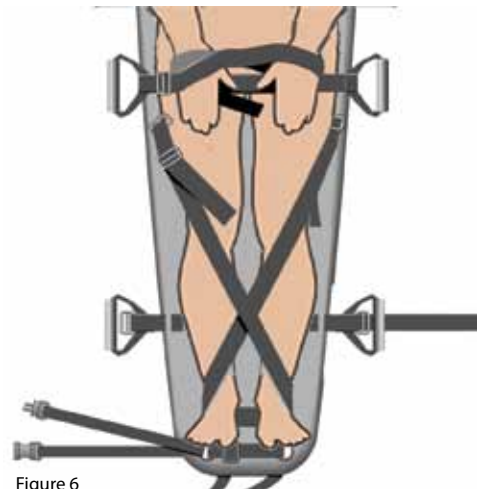

Figure 6
4. Use the foot loop to form a figure of eight around the feet as shown on Figure 6. Padding around the ankles and legs should be added if required.